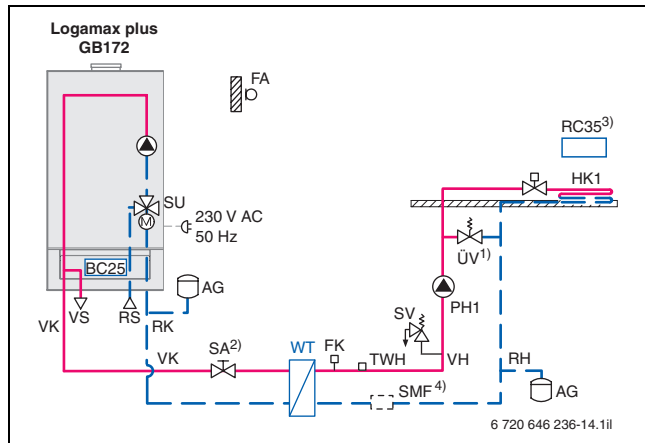

Fig. 67 Example of an underfloor heating system with system separation via a heat exchanger with pipes that are permeable to oxygen
When installing pipes that are permeable to oxygen, e.g. in underfloor heating systems, provide system separation by means of a heat exchanger (→ Fig. 67, page 68).
Provide system separation for underfloor heating systems with pipes that are permeable to oxygen. The underfloor heating circuit must be protected separately, downstream of the heat exchanger, by means of an expansion vessel, safety valve and temperature limiter (→ Fig. 67). Size the heat exchanger in accordance with the selected system temperatures. The pressure drop on the primary side (boiler circuit) must be lower than the residual head of the pump integrated into the Logamax plus GB172/GB172T.
- 1) Overflow valve not required for variable speed pumps (→ Fig. 67)